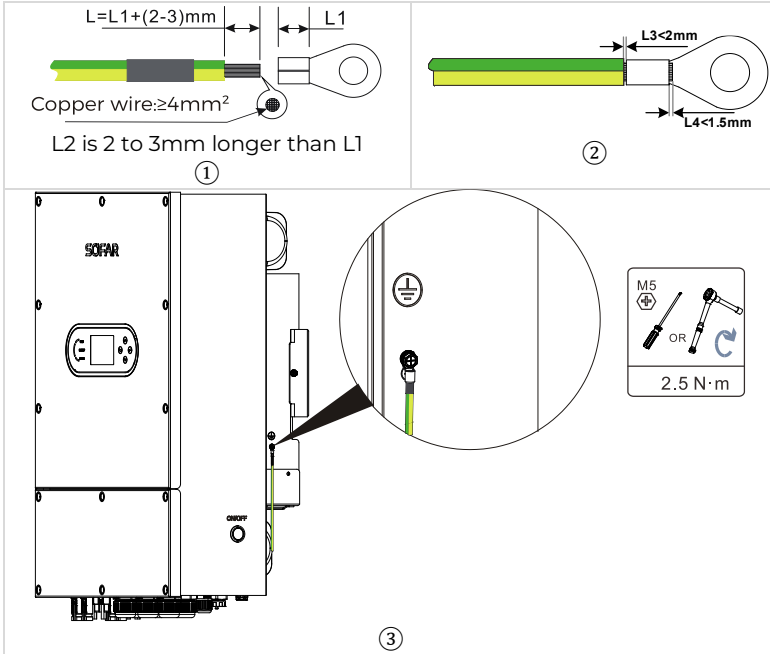

Figure 5-1 Connecting PGND cable
Step 1 Remove the insulation layer with an appropriate length by using a wire stripper, as shown in figure 5-1①.
Step 2 Insert the exposed core wires into the OT terminal and crimp them by using a crimping tool, as shown in figure 5-1②.
Step 3 Install the crimped OT terminal, flat washer and M5 screw. Tighten the screw to a torque of 2.5 Nm. by using an Allen wrench, as shown in figure 5-1③.